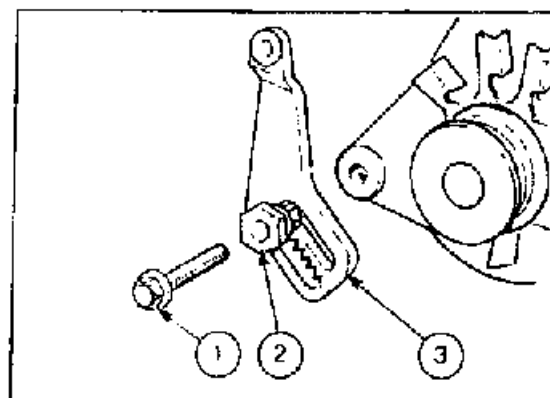

Fig a2 - Rack & pinion adjuster
4. Loosen the adjuster centre locking bolt. (1) in Fig a2.